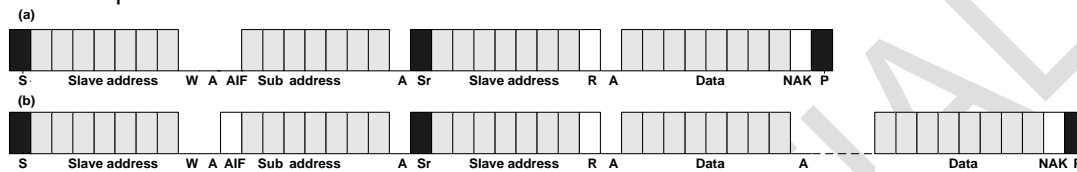
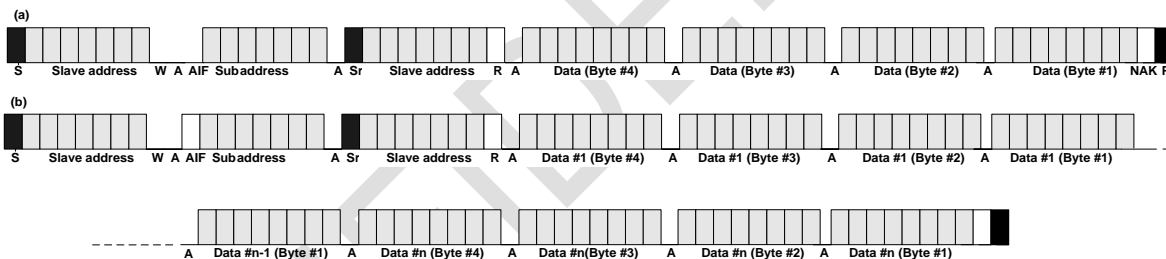

Figure 8. Single Byte Read Mode Sequence
Figure 9. Quad Byte Read Mode Sequence
**Figure 8-(a)** represents single byte reading operation from the NTP8918. To read data from the NTP8918, generate the start condition to start transfer. After then, send “Slave Address”
When the AIF is set to high on "Sub Address" like **Figure 8-(b)**, data will be read continuously with register addresses which are increased from initial "Sub Address" for every byte. To continue reading operation in this case, the master must generate ACK signal on every 9th slot to confirm that the master received 1 byte successfully. Otherwise, reading operation will be terminated. To end address auto increment reading operation, generate NAK on 9th slot and the stop condition.
**Figure 9** represents quad byte reading operation. The difference between quad byte reading operation and single byte reading operation is only the size of receiving data. So, after sending "Sub Address", 4 sequential bytes must be received from the MSB to the LSB sequence.
The type presented on **Figure 9-(b)** is quad byte read operation under address auto increment mode, AIF function. Please compare the data receive size between **Figure 8** and **Figure 9**.